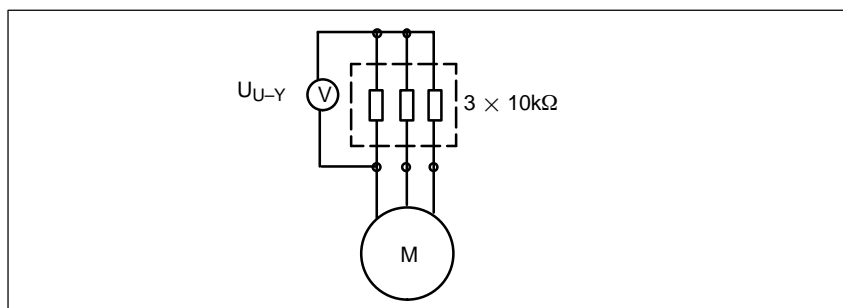

Fig. 1-9 A recommendation as to how an artificial neutral point can be created
1) V_{U-Y} : Phase voltage of phase U with respect to the artificial neutral point (refer to Fig. 1-9)
The formation of the neutral point is explained in Fig. 1-9 on Page GE/1-10.